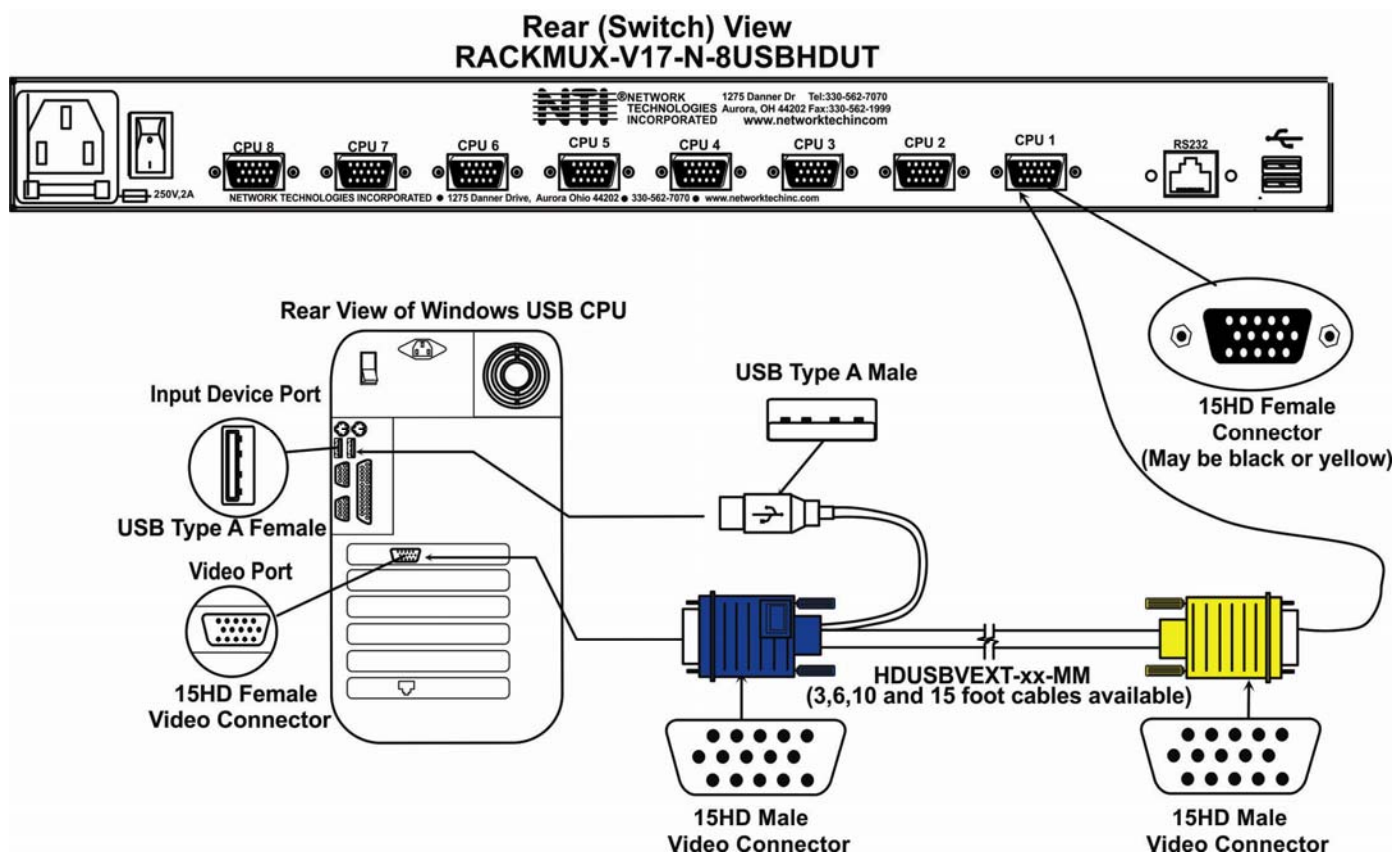

Figure 7- Connect each CPU using a HDUSBVEXT-xx-MM cable
- Connect the 15HD yellow male cable end of the HDUSBVEXT-xx-MM cable to a yellow “CPU x” port on the USB KVM switch. (See Figure 7)